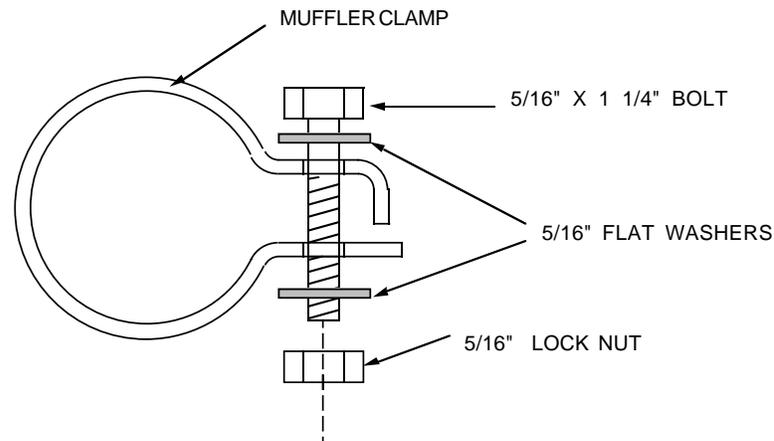

Figure 1
6. Slip a chrome muffler clamp onto the inlet end of each muffler. Install the clamp hardware as shown in figure 1 (hardware supplied). Leave them loose at this time.